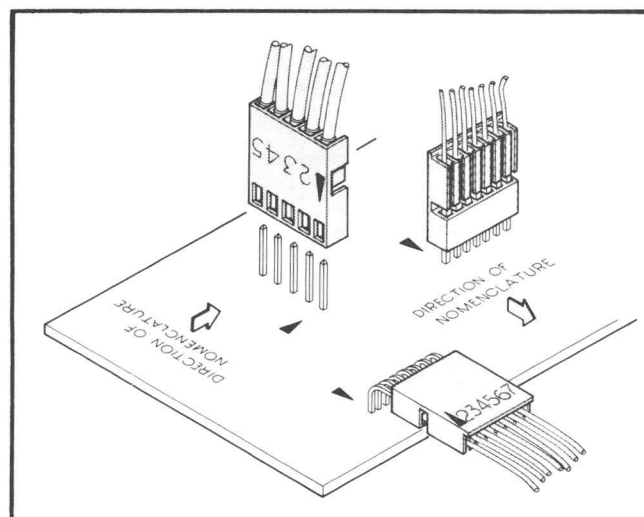

Fig. 4-2. Multipin circuit board connectors.
**Multiple Terminal Connector Holders.** Most inter-circuit connections between the circuit boards, or between the boards and chassis mounted components, are made through pin connectors. The terminals in the connector holder are identified with numbers. Connector orientation to the circuit board is keyed with triangles, one on the holder and one on the circuit board. See Fig. 4-2.